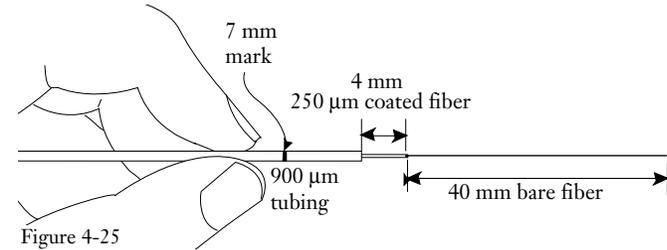

Figure 4-25
**4.6-6** Mark the fan-out tube 7 mm back from the strip point with a permanent marker (Figure 4-25).